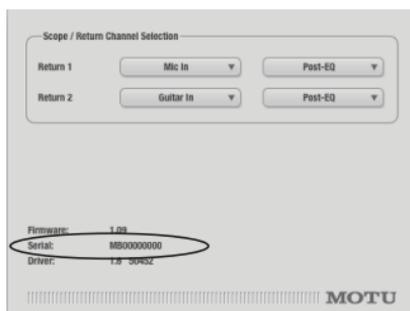

Figure 2-1: The Setup window.
- 3 The serial number is shown at the bottom of the Setup window, as shown in Figure 2-1.